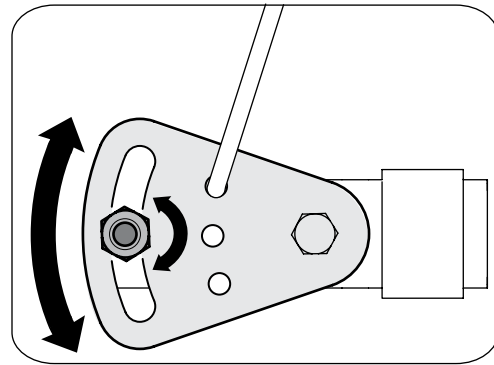

Figure 6-4
If the full range of speeds (forward and reverse) cannot be achieved, refer to the Figure 6-4 and adjust the shift cable as follows:
2. Loosen the hex nut on the shift cable index bracket. See Fig. 6-4.